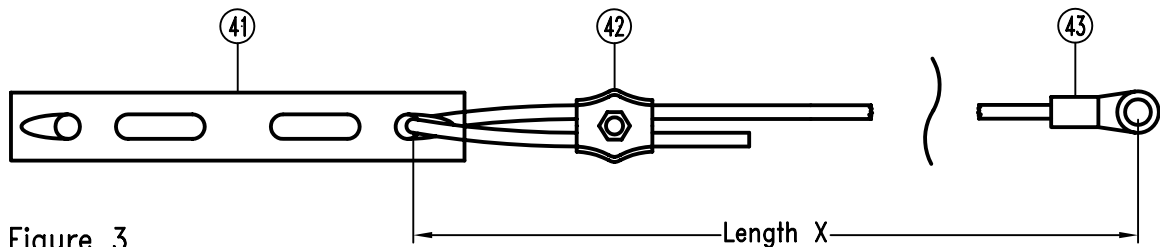

Figure 3
5. Now prepare the 3 wire radials (11) for the 10, 15 and 20m bands (Fig. 3). Adjust the radials to the desired length by means of the simplex clamps (42).
The antenna is fixed to the base tube by means of the U-bolt (21), tube bracket (22), washer (24) and hex nut (25). To attach the radials (11), unscrew one of the hex nuts (25) from the lower double-tube clamp (Fig. 1 + 2), (R) and attach the cable shoe for the radials (Fig. 3), (43). Tighten up the hex nut again.
8. The radials are a vertical antenna's electrical counterpoise. They increase the vertical component to a half wave on each band and ensure a low feedpoint impedance of 50 Ohms. They must be allowed to hang down freely and in no way come into contact with the roof or the ground. The angle of radials relative to the upright base tube (approx. 80°) and the horizontal alignment (approx. 120°) is not critical. Use non-conductive cord for guying purposes on the far side of the insulators (41).